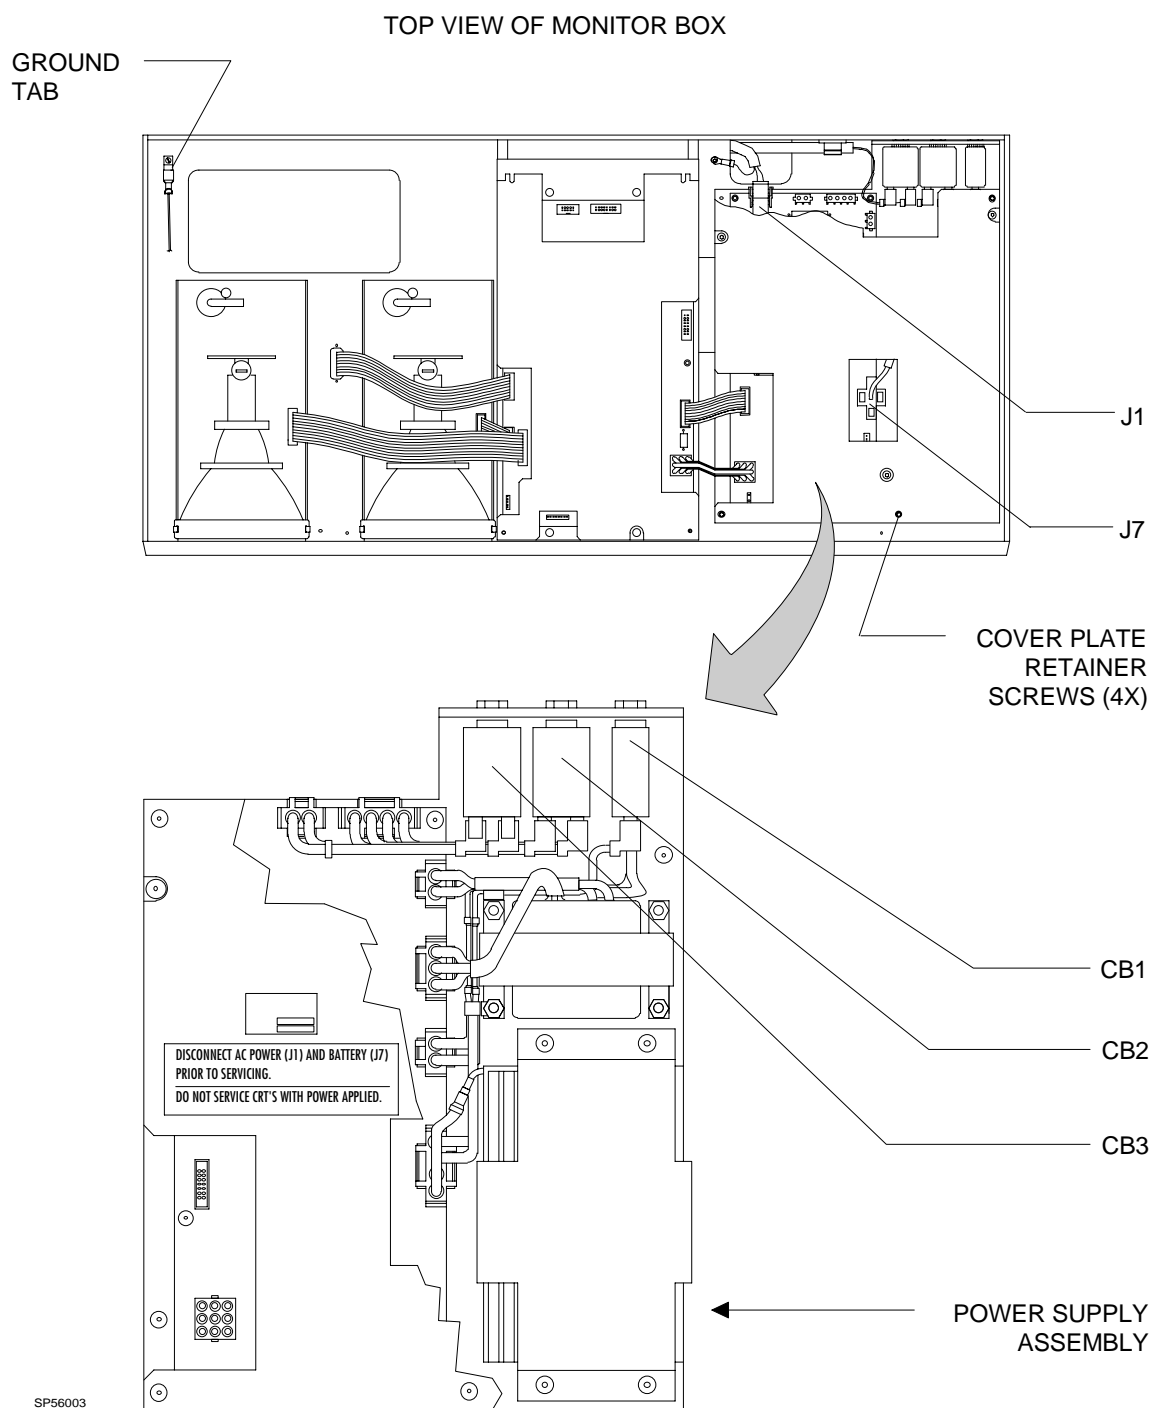

Figure 3: NARKOMED 2B CIRCUIT BREAKER LOCATION
4. On the power supply assembly, disconnect the AC power cable at J1, and disconnect the battery wire harness at J7. See Figure 3.